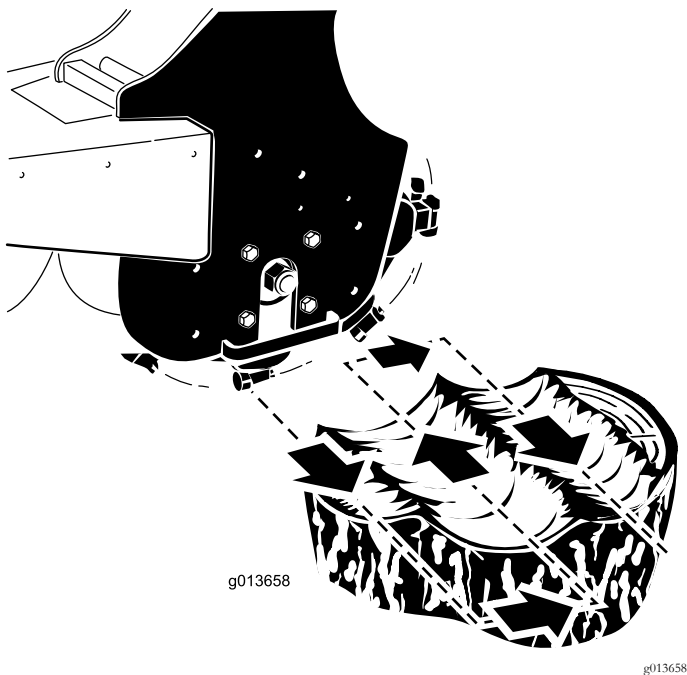

Figure 9
4. Position the grinder on the left side and behind the stump (Figure 9).
5. Swing the grinder toward you using the attachment tilt lever, grinding at a depth of 0.5 to 5 cm (1/4 to 2 inches), depending on the hardness of the wood (Figure 9).
6. Swing the grinder back out (Figure 9), lower it 0.5 to 5 cm (1/4 to 2 inches) and repeat steps 4 through 6 until you have ground down a few inches.
8. Move the grinder to the right (Figure 9).